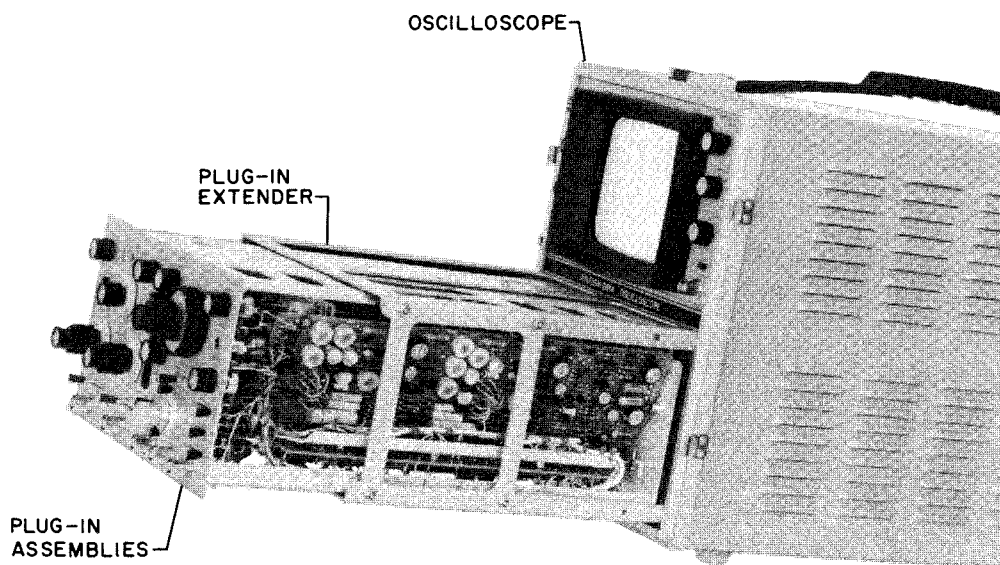

Figure 5-5. Plug-In Extender Installation
(3) Using latch handle, pull plug-in assemblies from oscilloscope assembly.
(4) Insert plug-in extender into oscilloscope assembly and mate with internal connector. See figure 5-5.
(5) Insert plug-in units into plug-in extender.